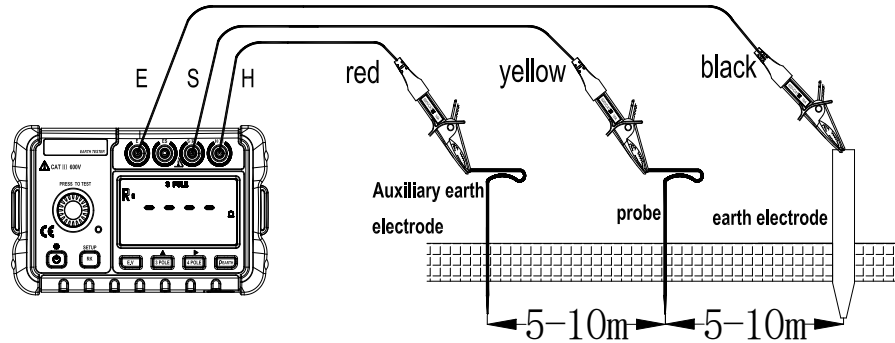

Figure 8
(1) Press **3 POLE** key to select measurement method: 3 Pole (the Main Screen displays 3POLE in the upper part);
(2) Residual resistance of Rk
① Firmly insert each plug of 3 test leads (black, red, blue) to the corresponding terminals E,S and H on the instrument respectively.
② Engage 3 Alligator clips to short-circuit all of them.
③ Save the Rk values with reference to ' the residual resistance on the Test Leads".
(3) Connection of Auxiliary Earth Spikes and Test Leads(See figure 8)
Replace the batteries as follows.( See Figure 8):